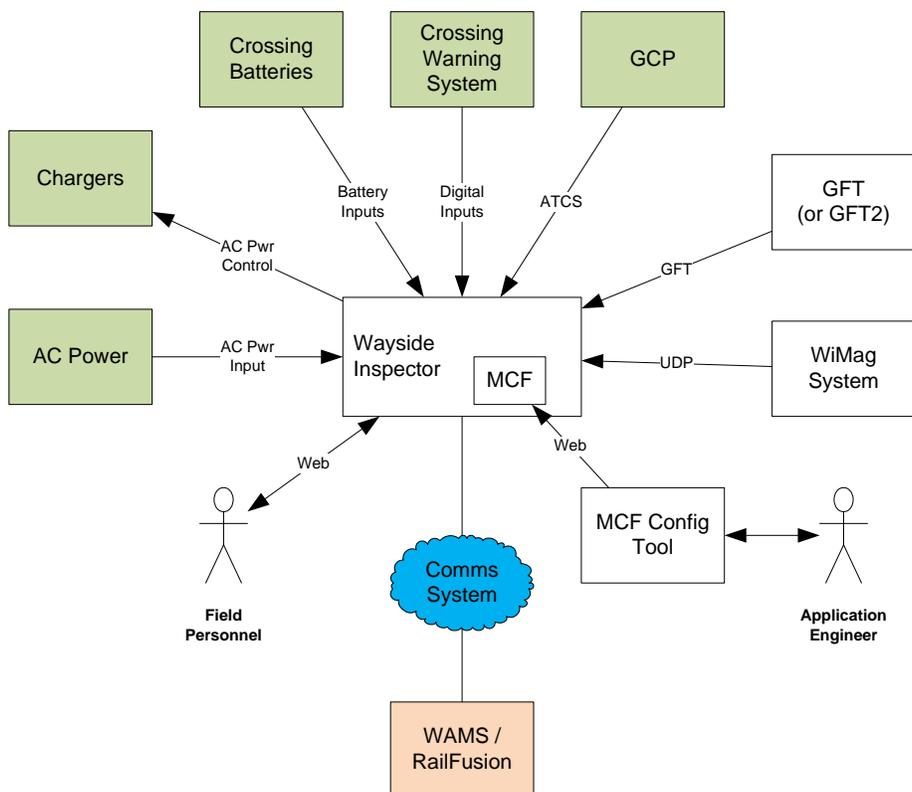

Figure 2-1: Context of Wayside Inspector Installed at Crossing
To achieve those goals, the system uses the Wayside Inspector (WI), installed at the crossing, to test standby power, test for grounds, monitor the crossing, and test warning time. The Wayside Inspector monitors the state of discrete I/O signals, battery voltages, and AC power at a crossing. From that information, the Wayside Inspector analyzes the operation of the crossing warning system and automatically performs periodic inspections of the crossing warning system. The Wayside Inspector can send alarms and automated inspection results to the backoffice system using several possible communications methods. The inspections are performed by the Wayside Inspector by executing application programmable logic Figure 2-1 shows the context of the WI installed at a crossing.